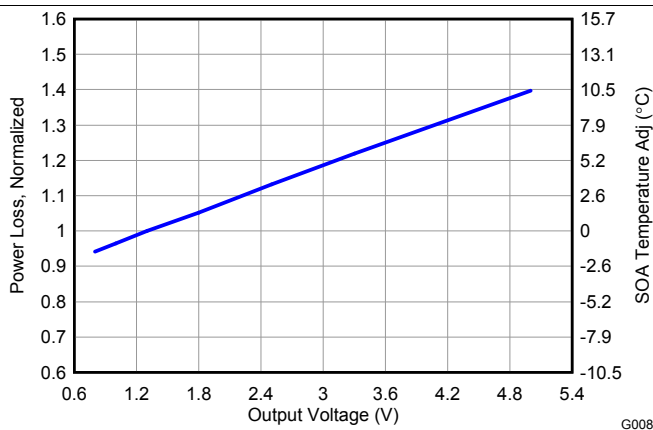

Figure 8. Normalized Power Loss vs Output Voltage
- Normalized Power Loss for output voltage  $\approx 0.98$  (Figure 8)